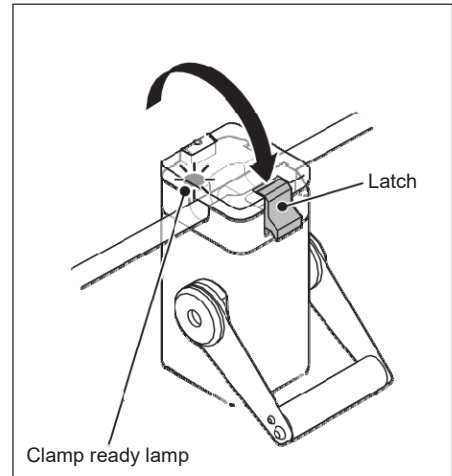

Figure 1-61
6. Close the lid of the Fast Clamp, and close the latch. (Figure 1-61)